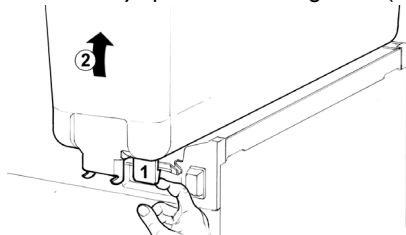

figure 3
2 Remove the empty bowl by lifting pulling lever (1) and its front side (faucet side) up and off bowl gasket (see figure 3).